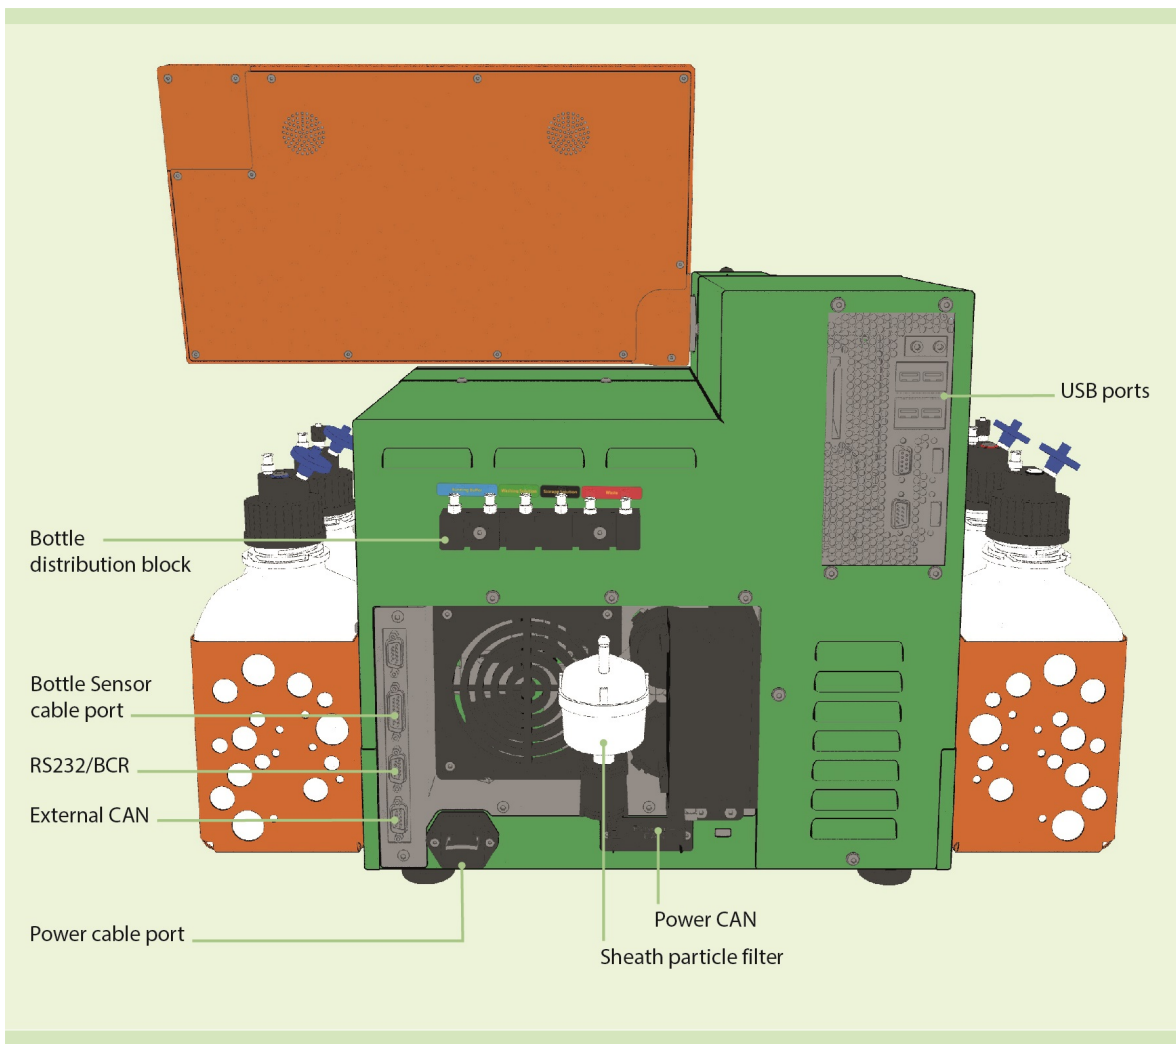

Figure 1.3: Rear view of the MACSQuant® Instrument.
- 3 Remove the caps from the bottle distribution block and connect the tubing to the appropriate color-coded fluid port of the bottle distribution block on the back of the instrument (refer to **Figure 1.3**).